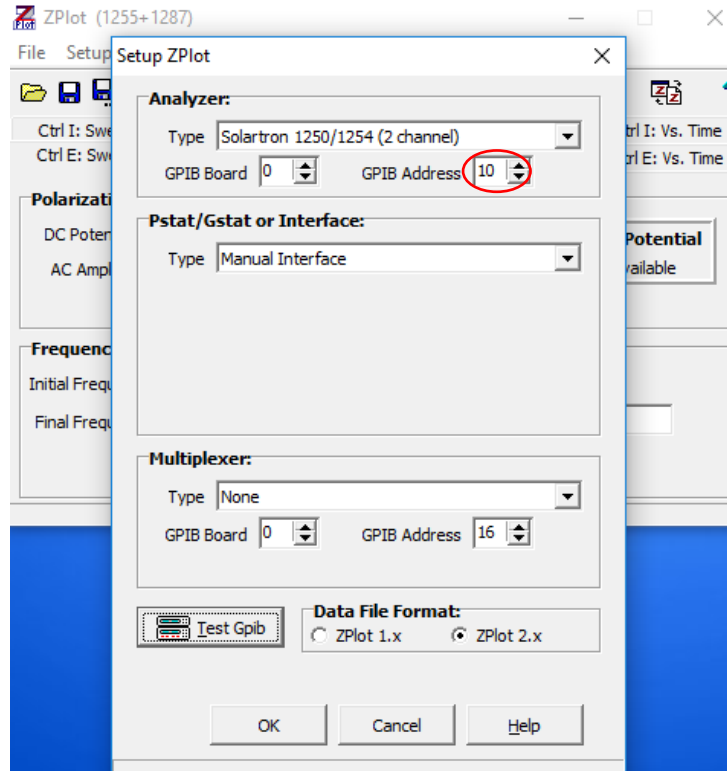

Figure 8
f. Click “OK”, then use the up/down arrows or enter a number to select the GPIB address that was displayed in the previous dialogue box (Figure 8).